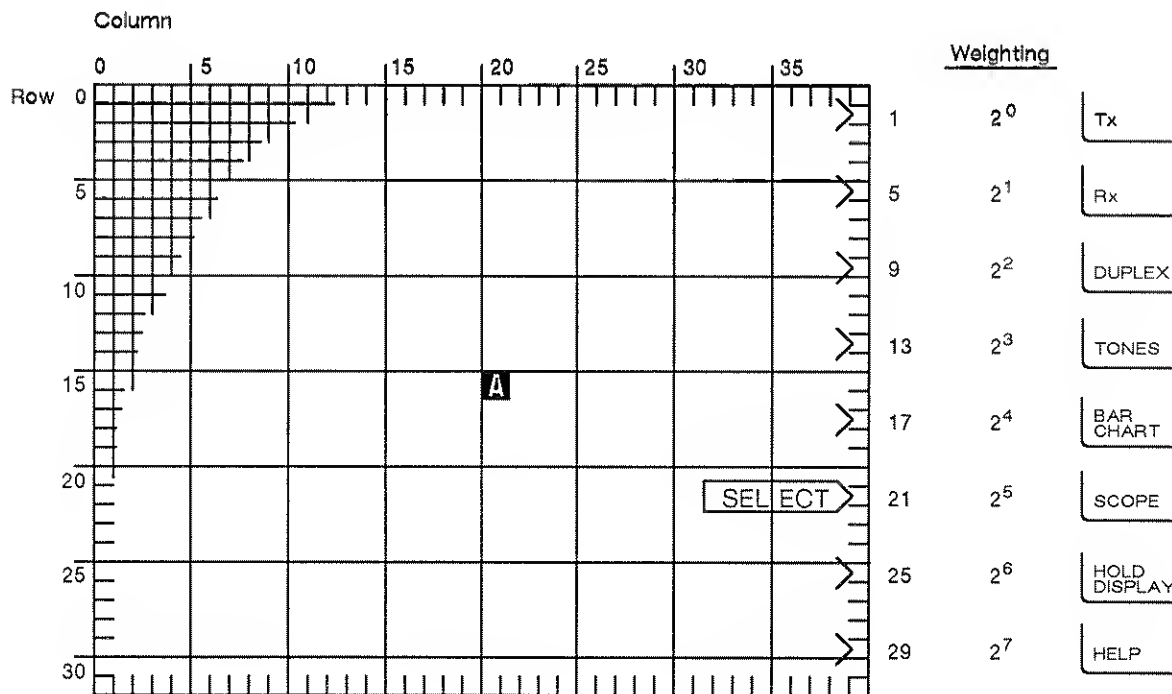

Fig. 3-3 Screen addressing example
To write a reverse video A at the centre of the screen at column 20, row 15, use "WR20,15,";CHRS(97) or "WR20,15a". To write SELECT in the box alongside the SCOPE/BAR key, use BX32,8;WR32,21;SELECT<LF>. See Fig. 3-3.